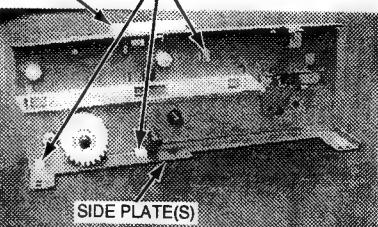

Fig. T-12
- Fig. T-12 Unlock 3 locking tabs (B) and remove the Tray Motor Drive Unit.